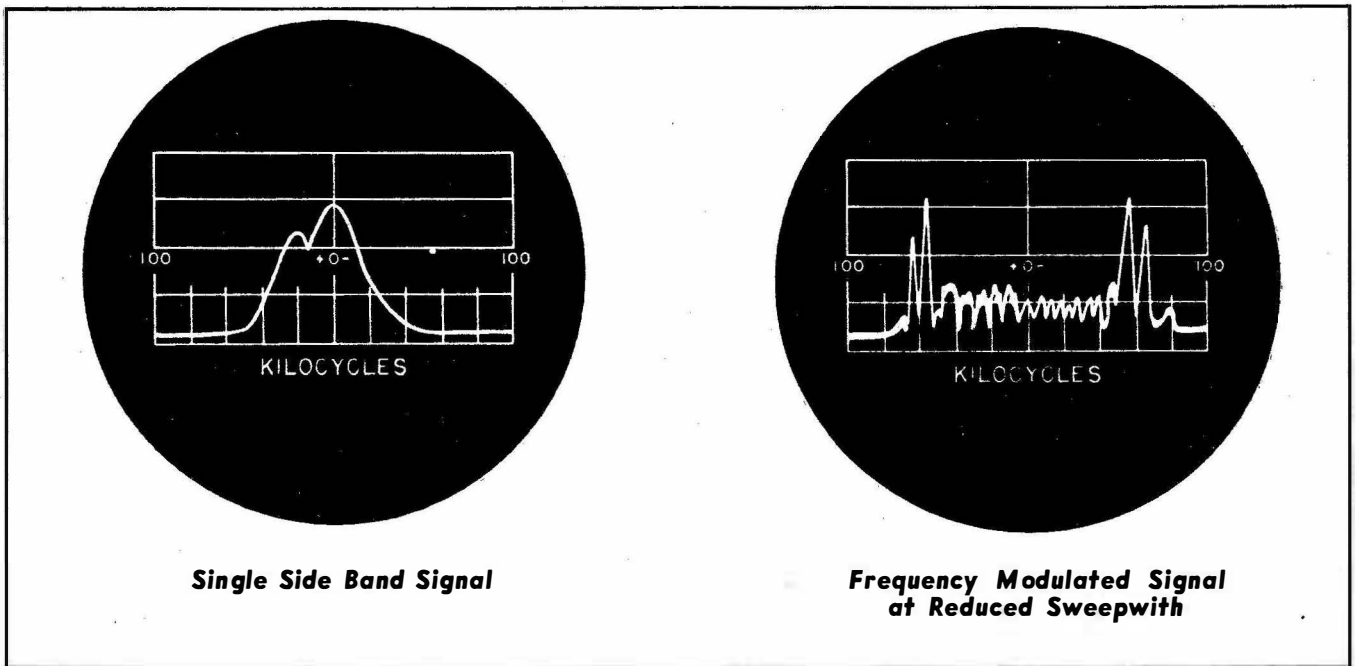

Figure 9. Typical Patterns of Single Side Band and FM Signals
(3) *Single side-band modulation* appears as two carriers of slightly different frequency. (See below: “Signal Interferences”). Refer to Figure 9.
(5) *A speech or music modulated FM signal* appears as many deflections spreading over a variable bandwidth. During periods of audio silence a single carrier appears. Refer to Figure 9.